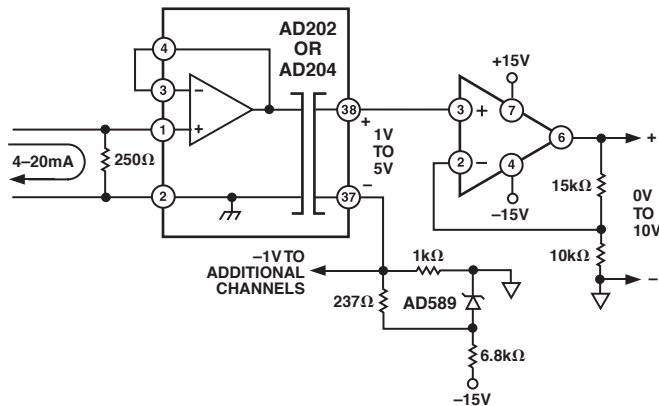

Figure 18. Process Current Input Isolator with Offset
**Process Current Input with Offset.** Figure 18 shows an isolator receiver that translates a 4-20 mA process current signal into a 0 V to 10 V output. A 1 V to 5 V signal appears at the isolator’s output, and a -1 V reference applied to output LO provides the necessary level shift (in multichannel applications, the reference can be shared by all channels). This technique is often useful for getting offset with a follower-type output buffer.